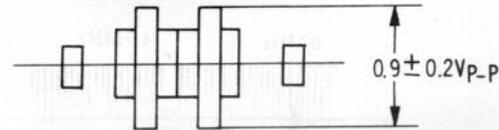

Fig. 33
4. Adjust T801 so that the chrominance output signal of TP81 becomes as shown in Fig. 33.